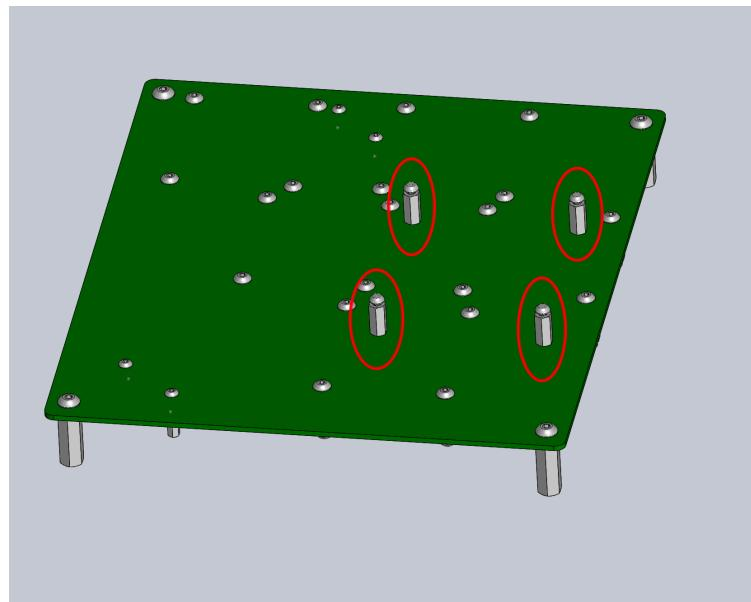

Figure 15: Raspberry Pi Standoffs
4. **Raspberry Pi Standoffs:** On the **TOP** side of the board, attach the four M2.5 Standoffs **T7** using screws **B10** as shown in Figure 15.